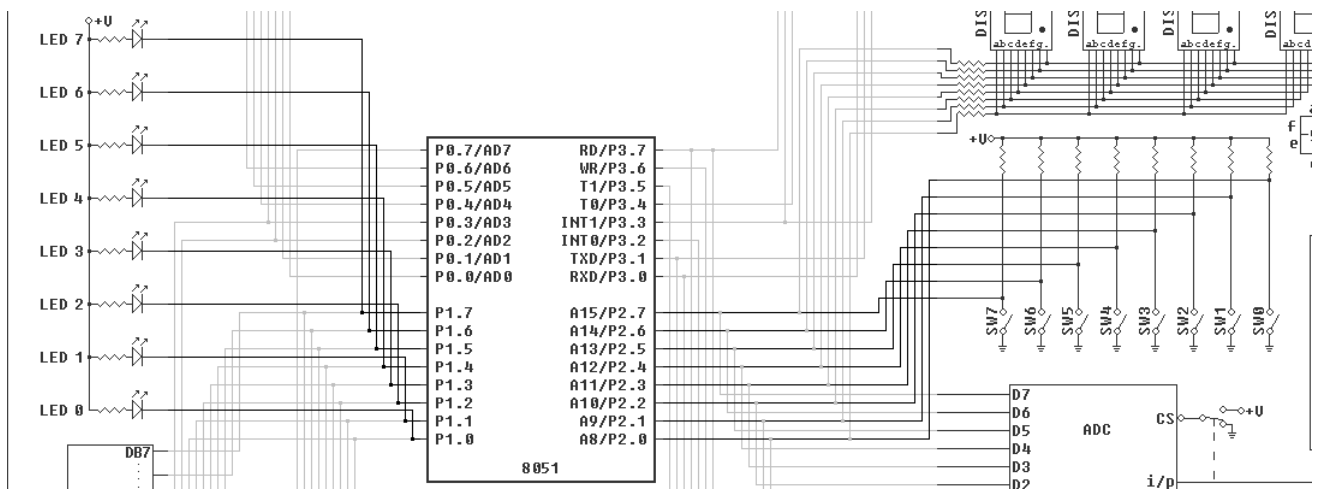

Figure 1.1: Figure showing the **Circuit Diagram of interfacing LED's & switches with 8051.**
**Conclusion :** We developed assembly language code and C code for interfacing LED bank & switches with 8051. The circuit diagram connecting 8085 with LED bank & switches is shown in figure 1.1.